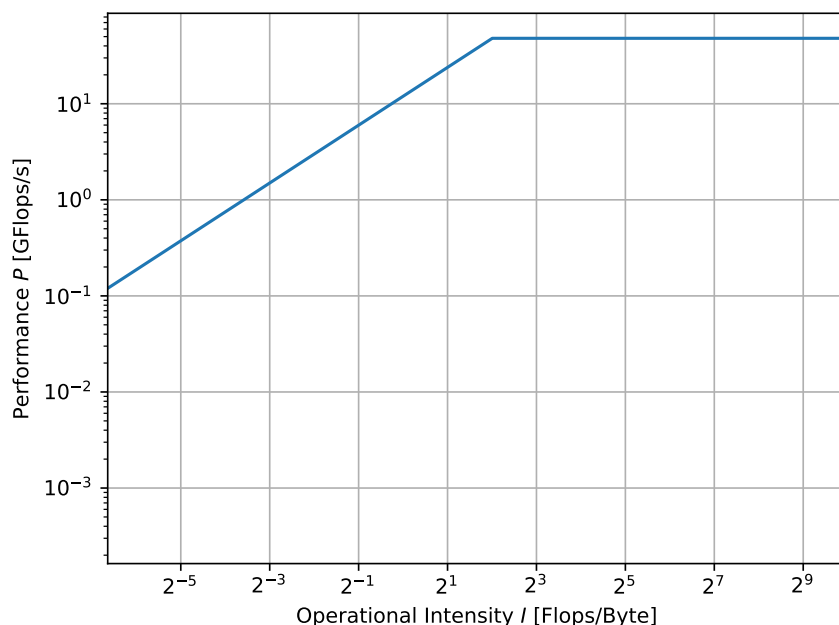

Figure 2: Simple (or naive) roofline model for a single core of a hypothetical CPU.
A simple (or sometimes called naive) roofline model for a hypothetical system combining Subsections 2.1 and 2.2.1 is displayed in Fig. 2. We observe that the ridge point is roughly at an operational intensity of $I_{\text{ridge}} \approx 4$. Hence, a given kernel or application with an operational intensity below I_{ridge} is memory-bound. Similarly, a given kernel or application with an operational intensity above I_{ridge} is compute-bound.
2. Visualize your roofline models in a plot similar to Fig. 2.